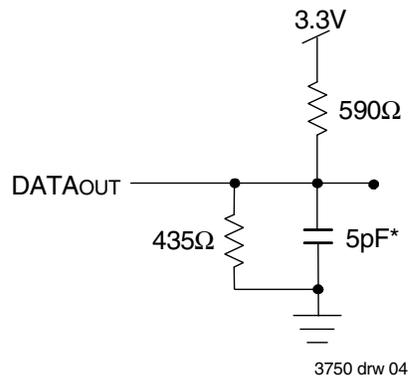

Figure 2. Output Test Load
1. Transition is measured 0mV from Low or High-impedance voltage with the Output Test Load (Figure 2). This parameter is guaranteed by device characterization, but is not production tested.
- Transition is measured 0mV from Low or High-impedance voltage with the Output Test Load (Figure 2). This parameter is guaranteed by device characterization, but is not production tested.
3. Transition is measured 0mV from Low or High-impedance voltage with the Output Test Load (Figure 2).